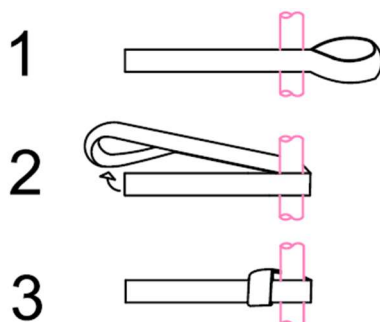

Figure 7 - shows how to produce a Lark's Head Knot.
5. Fit two Cylinder Straps (Item 1) to the Top Ring of each of the Fuel Cylinders using a Lark's Head Knot, see Figure 7. Ensure that the knots are tight.